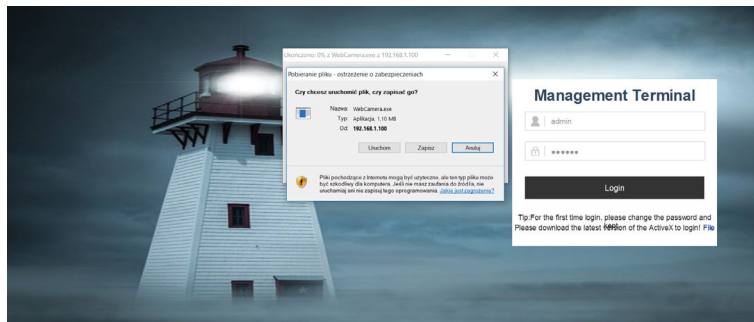

Fig.8
- agree to download the application by pressing „Save” button (Fig.8)